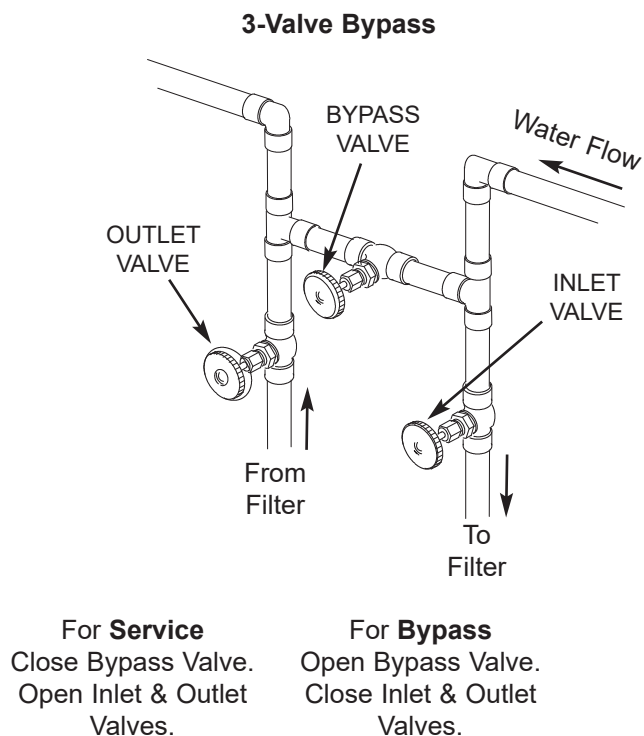

FIG. 91
3-VALVE BYPASS (See Figure 91)
4. Are plumbing bypass valve(s) in service position (See Figures 91 & 92 on Page 25)?